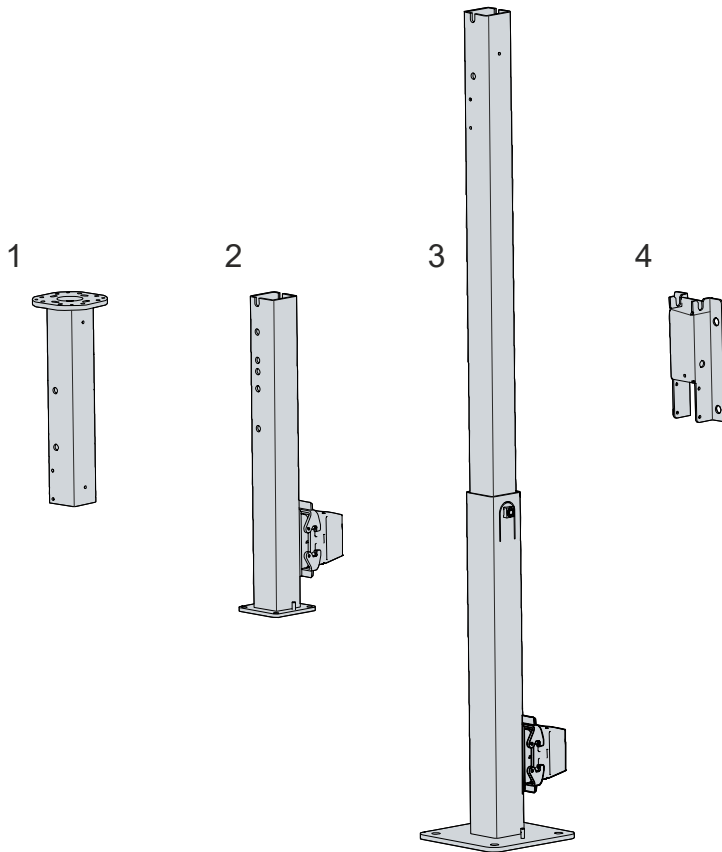

Fig. 7: CP32xx\_mounting arms
Figure 7 shows the four available mounting arms for mounting on the ceiling (1), on the control cabinet (2), on the floor (3) and on the wall (4).
The C9900-M803 and M804 mounting arms are equipped with a cable set for the CP32xx-2xxx or the C9900-M800 push button extension. These cables are connected to a HAN connection socket in the lower part of the mounting arms. Figure 7 shows the connection sockets on the two mounting arms mentioned (2, 3). Both mounting arms are supplied with a plug to match the connection socket. Further information on the HAN plug can be found in the corresponding plug documentation.